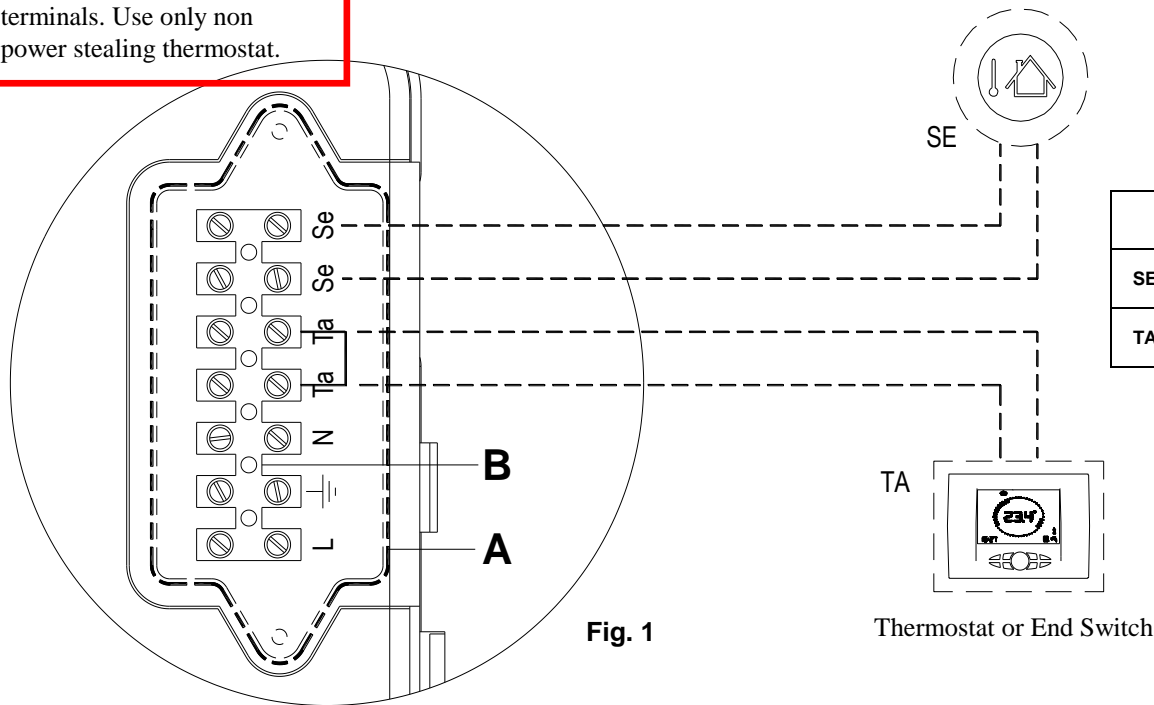

Fig. 1
- c. remove the screws and remove plate A from the control panel (see fig. 1). With the plate removed, proceed with the following wires connection: